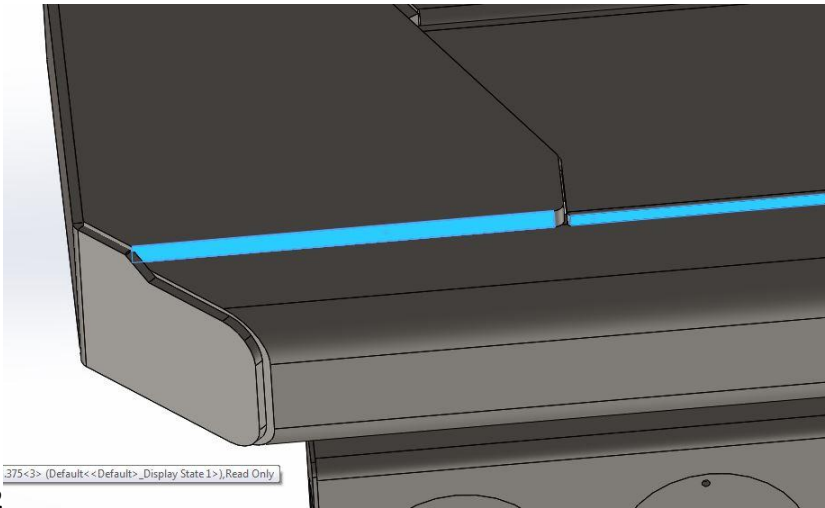

Figure 2
3. Fit the weld-on cover plate in place of the existing coversheet with the rear edge parallel to the rear edge of the arm plate, Figure 2.